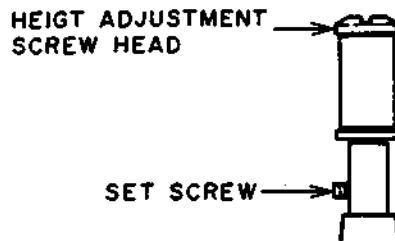

Fig. 5-11
- 1) Slightly loosen the set screw at the lower part of the LOADING LEADERS (L), (R) so that the LOADING LEADER can be adjusted with reasonable tightness. (Refer Fig.5-11)